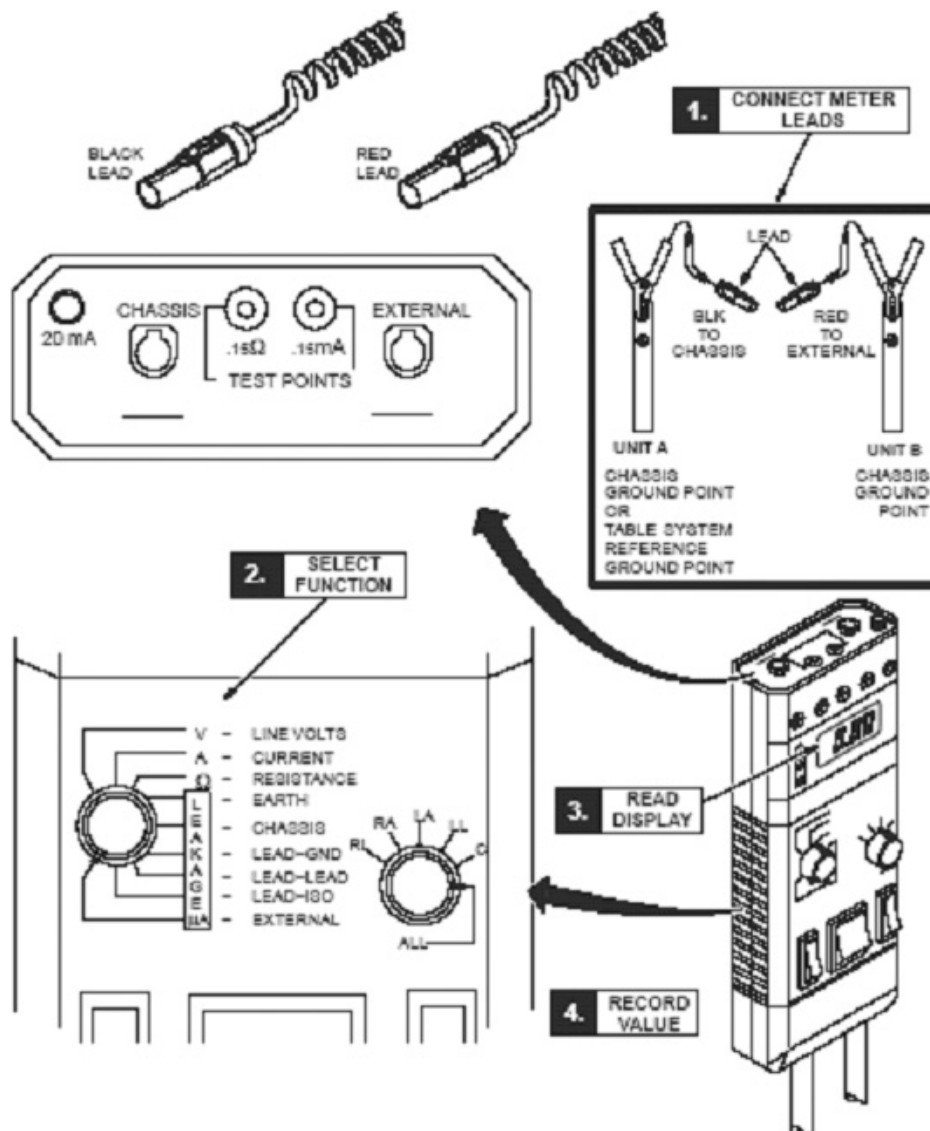

Figure 5-4 Using Dale 600 to Measure Leakage Current
- 1.) See Figure 5-4 for the usage of the Dale 600 meter to measure leakage current.